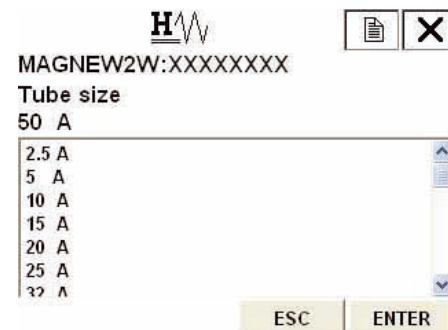

Figure 7-19
Figure 7-19 will then be displayed.
2. Once the display as shown in Figure 7-19 appears, move the arrow key up or down to select a detector diameter. After making a selection, press F4 (ENTER). If F3 (ESC) is pressed here, the selection will be canceled and the display will return to the Detector config menu.